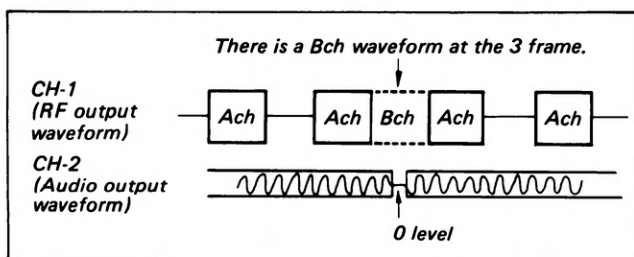

Fig. 3-53. Position adjustment of ACE assembly (1)
2. Play back the β II mode "Tracking" segment of alignment tape KR5-1S. (See Fig. 3-53.)
3. Set the tracking control to center click point, and confirm that output waveform level is maximum and 0 level point of audio signal appears at Bch waveform as shown in Fig. 3-53. If the specification is not satisfied, perform the following step 4.